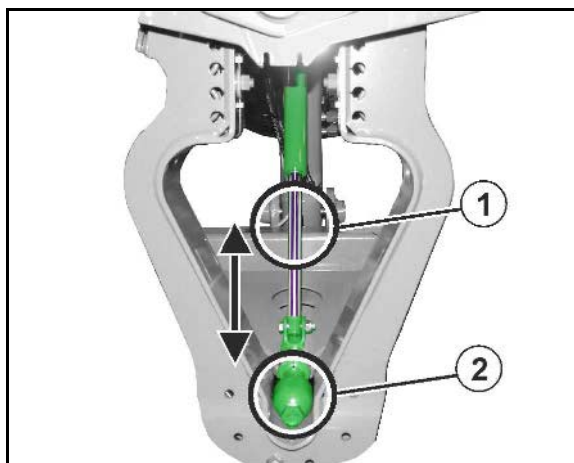

Fig. 94
## Unlocking the swing compensation (Fig. 94/1):
- The swing compensation (Fig. 94/1) unlocks and the unfolded sprayer boom can swing free opposite the boom frame. For illustration purposes, in this image the protective device has been removed from the swing compensation.
## Locking the swing compensation (Fig. 94/2):
- The swing compensation (Fig. 94/2) is locked when the closed lock symbol appears in the control terminal display.